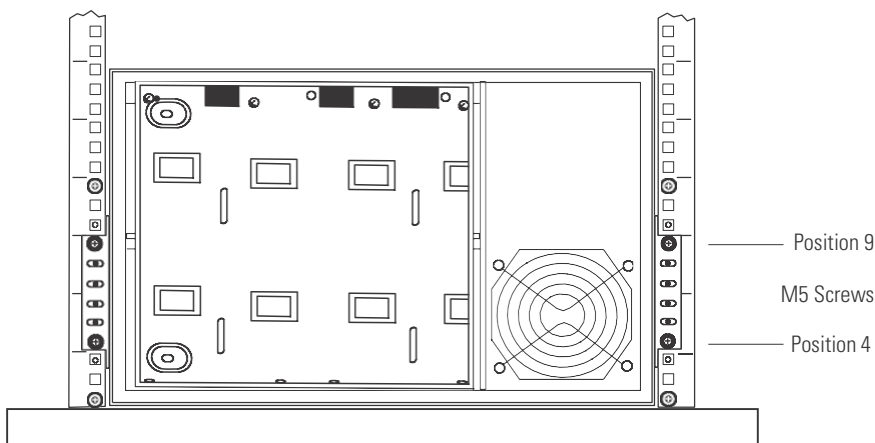

Figure 52. Securing the Front of the UPS
14. Using four M5 machine screws, secure the front of the cabinet to the rack as shown in Figure 52.